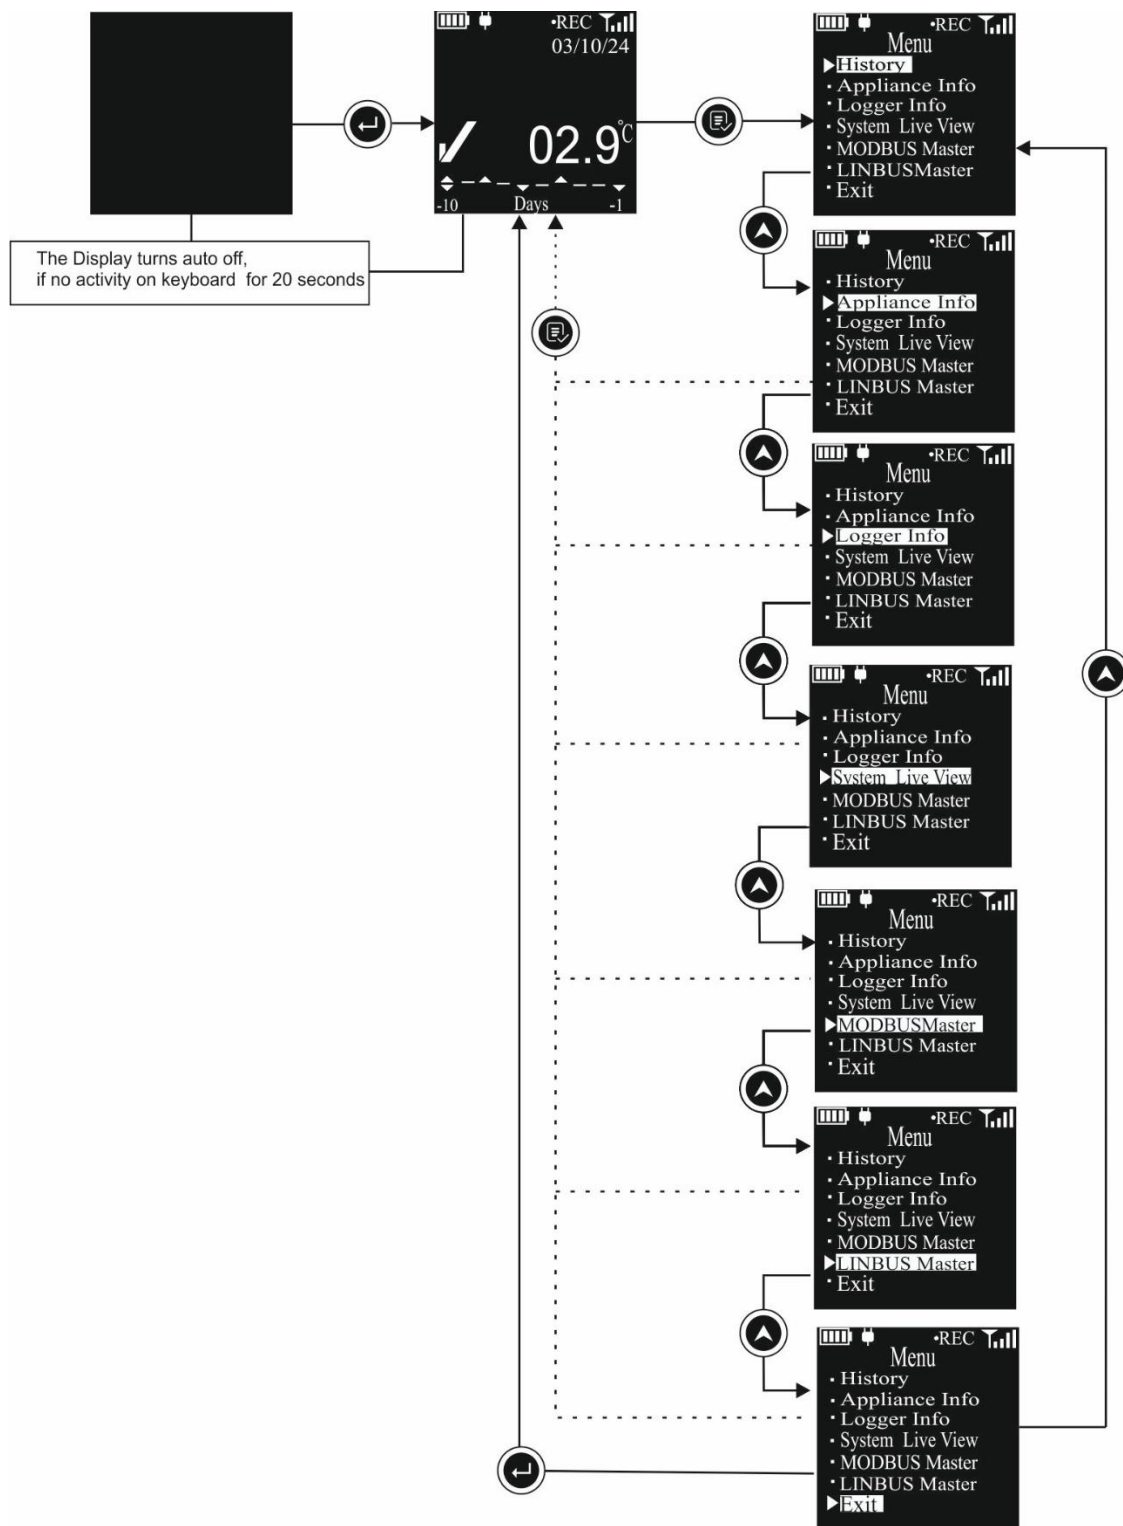

Figure 18 Main Menu Sequence
The Main menu consists following options as described the figure 18:
- Access the main Menu and select the Logger Info option as per the steps shown in figure 18.